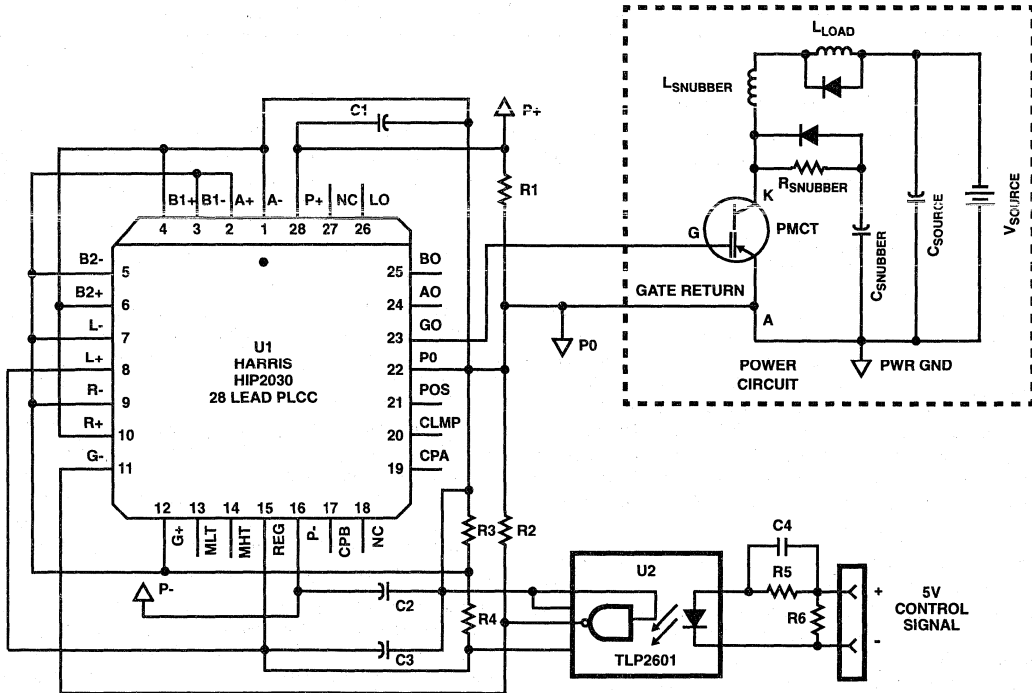

FIGURE 3. HARRIS PHOTO-COUPLED ISOLATED GATE DRIVE
The **Harris Photo-Coupled Isolated Gate Drive (HPCIGD)** circuit, illustrated in Figure 3, contains four subcircuits: a Single Supply DC bias, a Regulated voltage divider reference, a Local Energy Source Capacitance, and a Photo-Couple Receiver.
The **Single Supply DC Bias Circuit**, shown in Figure 3, consists of a single external dropping resistor (R1) connected between pins P+ (U1-28) and P0 (U1-22). When an input voltage of 30V is applied across pins P+ and P- (U1-16), R1 forms a resistive divider network with the input impedance located between pins P0 and P- (RVP0). This allows the circuit designer to adjust the value of R1 to obtain a desired bias voltage between pins P0 and P- (VP0). The value of RVP0 can be calculated by evaluating the equivalent Quiescent Input Impedance (RQ) and the 5V reference impedance (RR) as parallel resistances. The values for R1, RQ, RR, and RVP0 can be determined by using Equations 1(A, B, C, D) as shown in Appendix A, Exercise 1.1.
Q: How do I calculate the value of the series dropping resistor R1, shown in Figure 3?